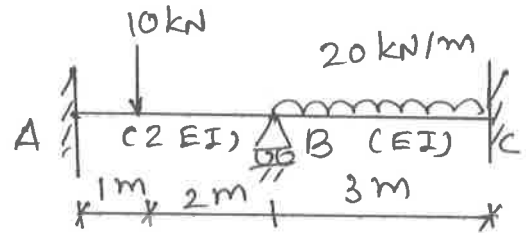

Fig. 2.
- Q.3** (a) Calculate displacements for the beam shown in fig.2 using stiffness member approach. **07**
(b) For beam shown in fig.2, compute displacements. If it is subjected to downward settlement of B by 5 mm. Take  $EI = 20 \times 10^3 \text{ kN.m}^2$ . **07**